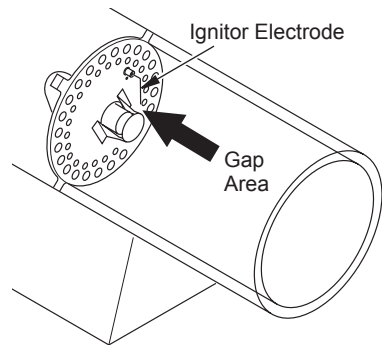

Figure 15 - Clearance Between Ignitor Electrode and Target Plate
7. Set gap between ignitor electrode and target plate to .17" (43.18 cm) (see Figure 15).